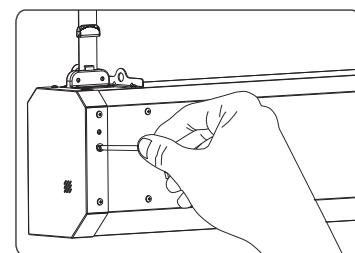

Figure 25
b.Lower limitation adjusting. Take off the knob from the hole and use the provided allen key to adjust (figure 25). A clockwise adjustment will extend the screen (The distance between the screen and installation position will increase) and a counter-clockwise adjustment will retract the screen (The distance between the screen and installation position will decrease).